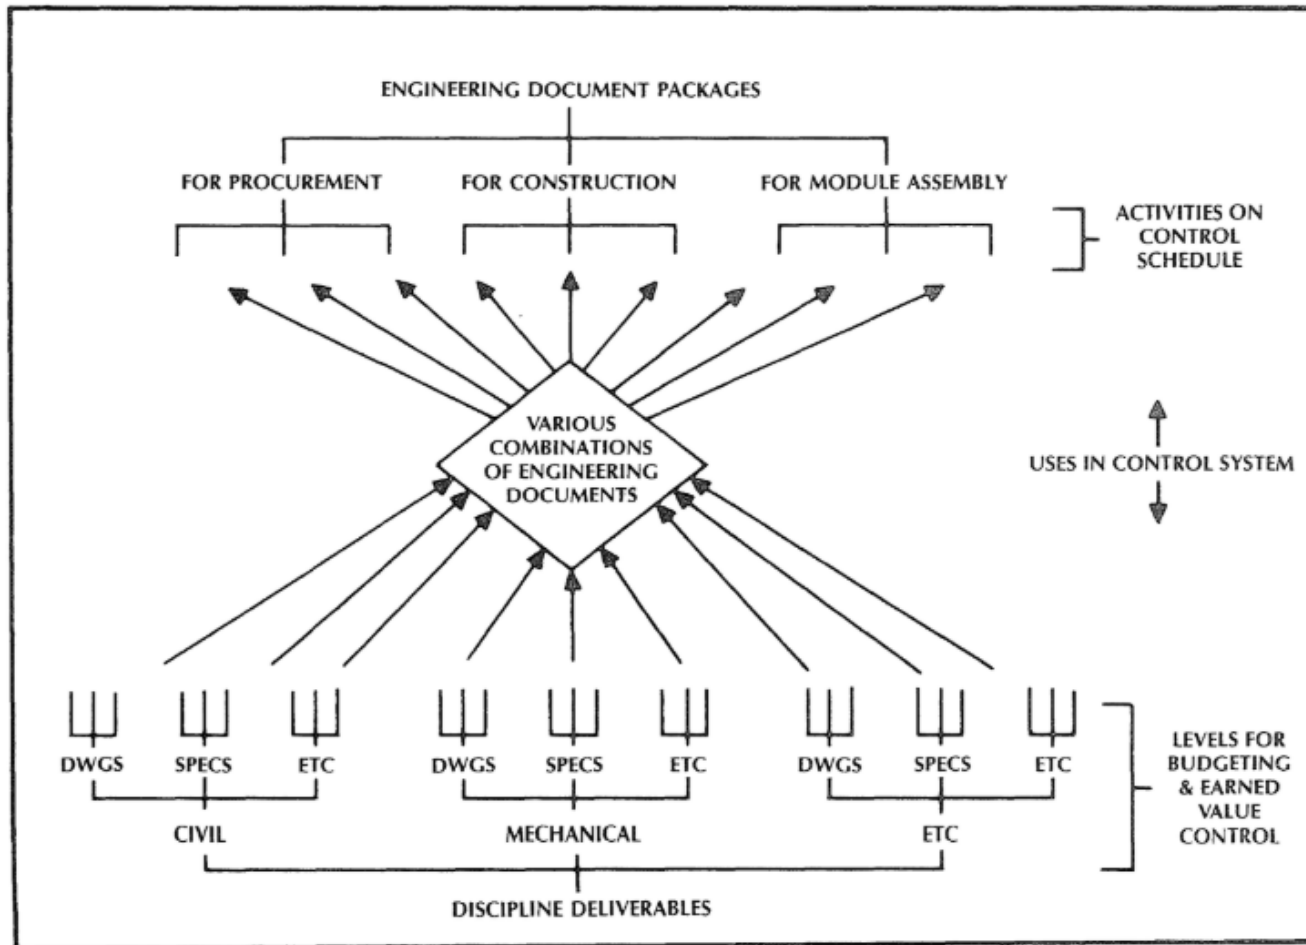

Figure 7. Engineering Control System
- ❑ **Figure 7** provides a **visual description** of the relationship between